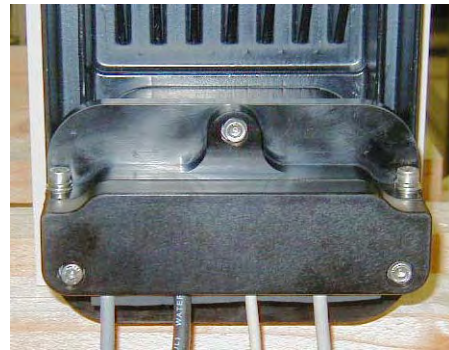

Figure 10-7. Splash Guard Installed
8. Install the splash guard using two M6x20 screws, two M6 lock washers, and two M6 flat washers. See Figure 10-7.